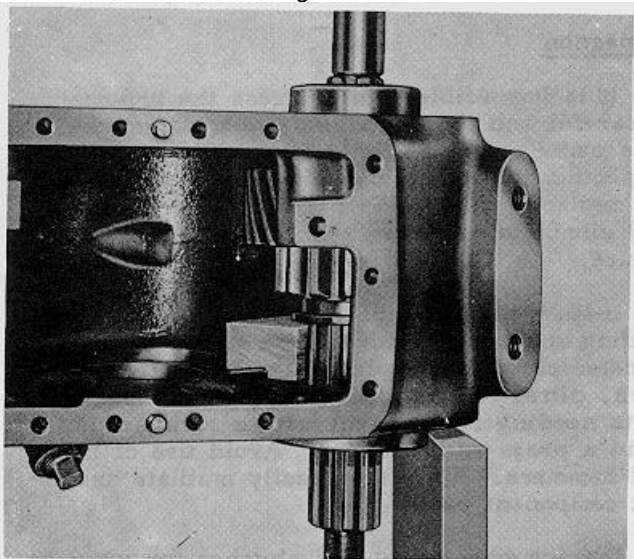

Fig. 17.
29. Using a block of wood between sliding gear and case, press out input shaft and front bearing (Fig. 17). Do not pound on shaft if gear becomes bound.